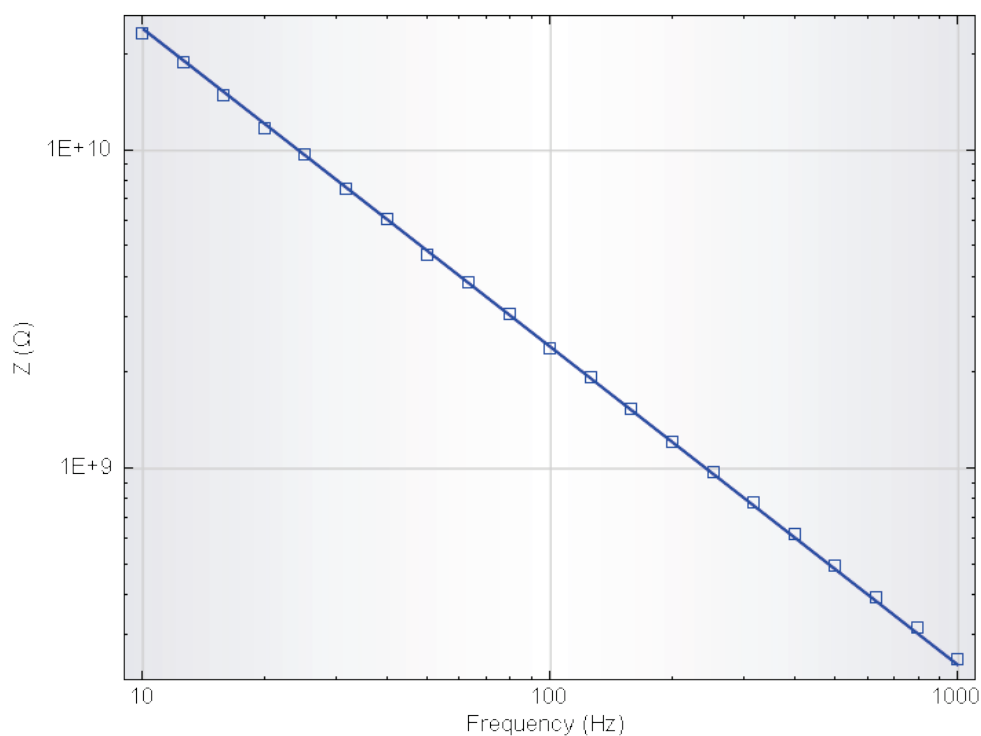

Figure 1.113 – Typical Bode plot obtained during the C2 calibration
5. During the measurement, the measured data will be plotted as a Bode plot should be similar to the example shown in Figure 1.113.